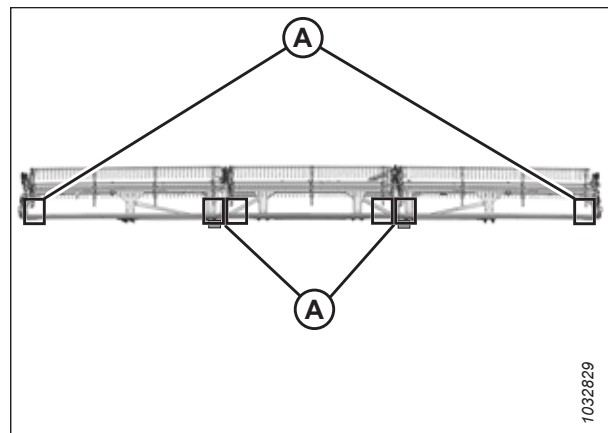

Figure 4.281: FlexDraper® Measurement Locations – Triple Reel
- Triple-reel headers: Figure 4.281, page 630